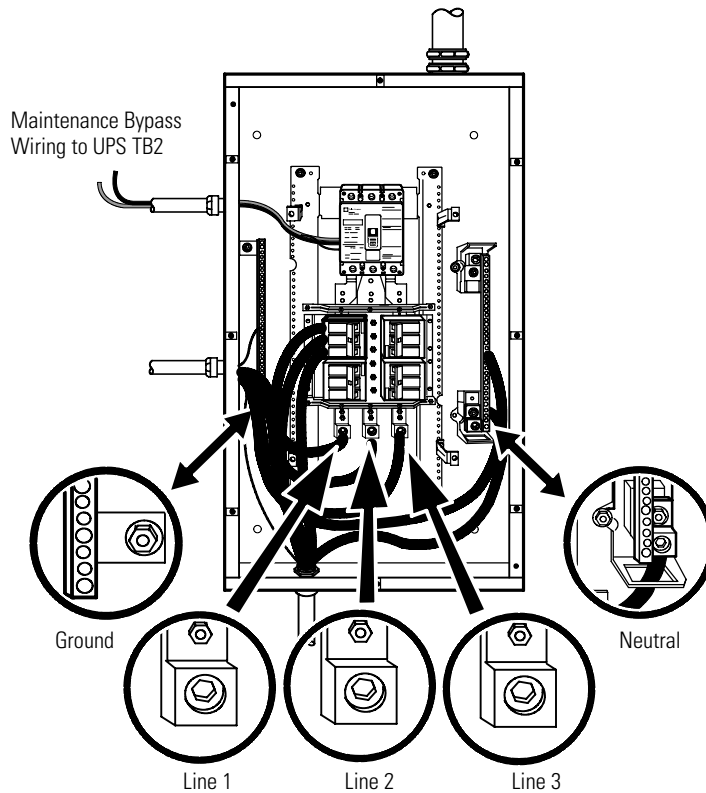

Figure 24. Load Connections
14. Hardwire the load to the bypass cabinet (see Figure 24).